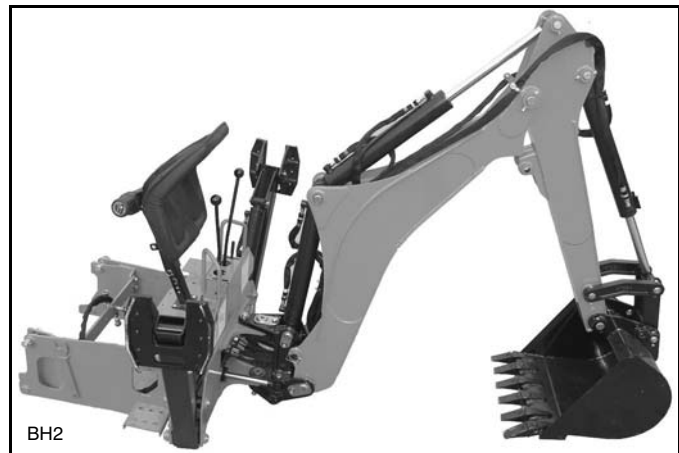

Figure 27. Backhoe Storage Position
11. Lower backhoe until backhoe main frame is firmly on the ground. Retract boom and dipper and place bucket cutting edge flat on the ground. See Figure 27. Connect transport lock and insert swing lock pin.